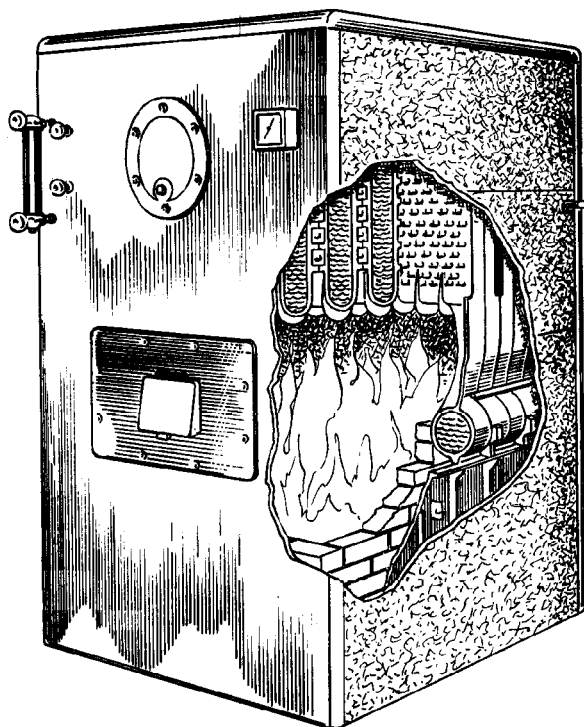
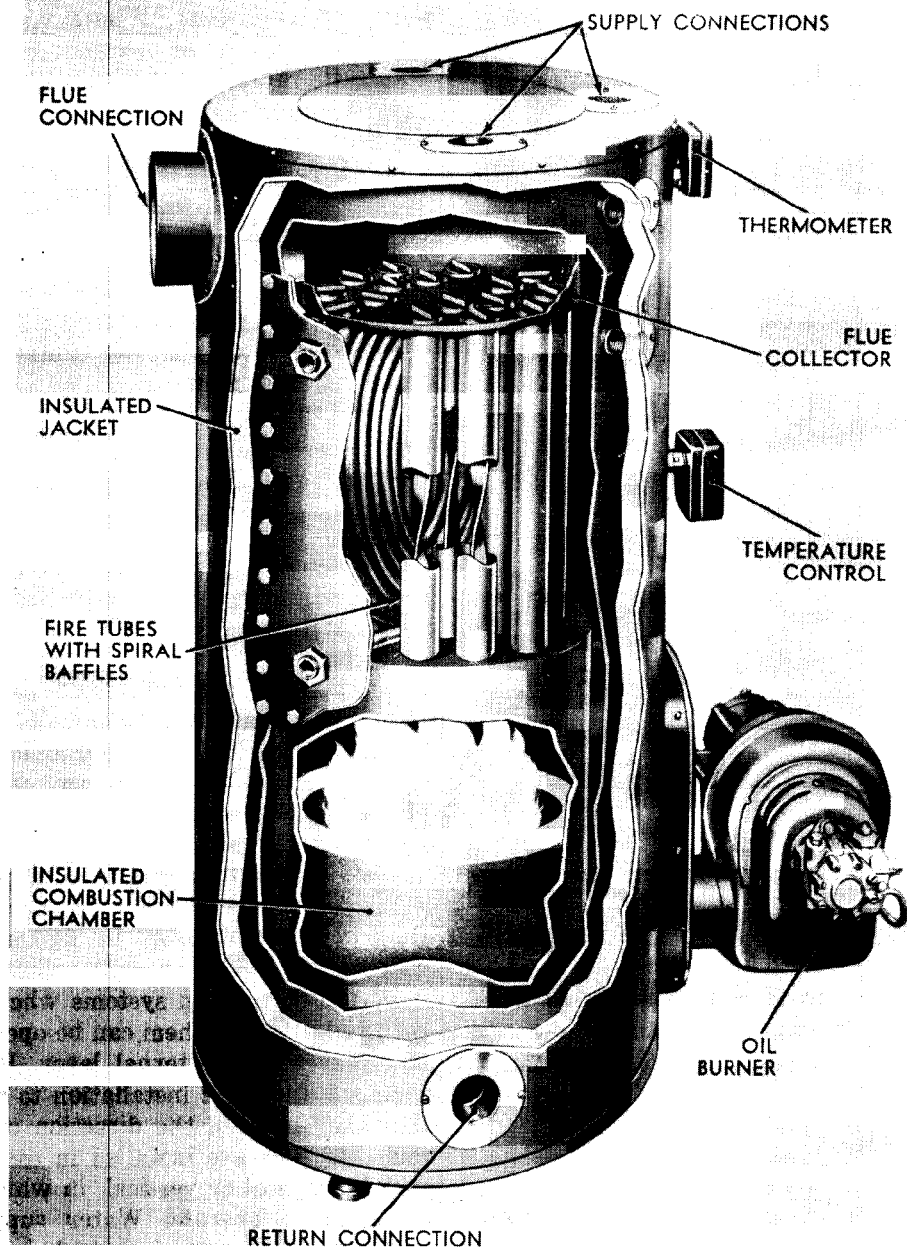

Figure 4-2. Cast iron rectangular sectional boiler.
Figure 4-3. Steel vertical tubular boiler.
a. Boiler Types. Boilers used for hot water systems are similar or identical with those used for steam systems and usually differ only in the waterline control, safety valve, etc. Round cast iron boilers can be supplied with either of two types of top sections, one for hot water and one for steam. The top section for steam boilers is larger so as to provide space for the separation and collection of dry steam. A typical rectangular cast iron sectional boiler is shown in figure 4-2. A vertical steel tubular boiler is shown in figure 4-3.